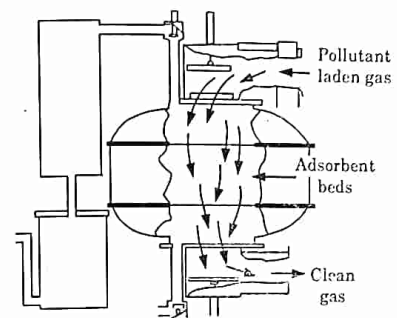

Fig. 4.2.1. Schematic sketch of an adsorption tower unit.
4. One special form of molecular sieve can also capture NOx. A schematic sketch of such a unit is shown in Fig. 4.2.1.